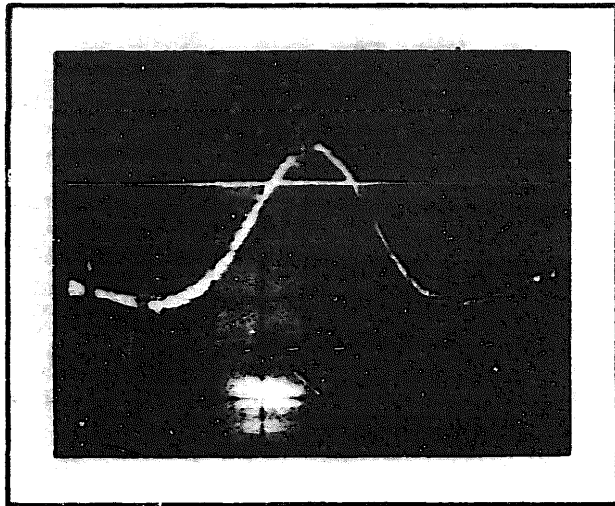

Figure 3-6 AM to PM Conversion
7. Adjust A24C20 to obtain a trace as in Figure 3-6. (Note: A24R41 must be set fully clockwise).